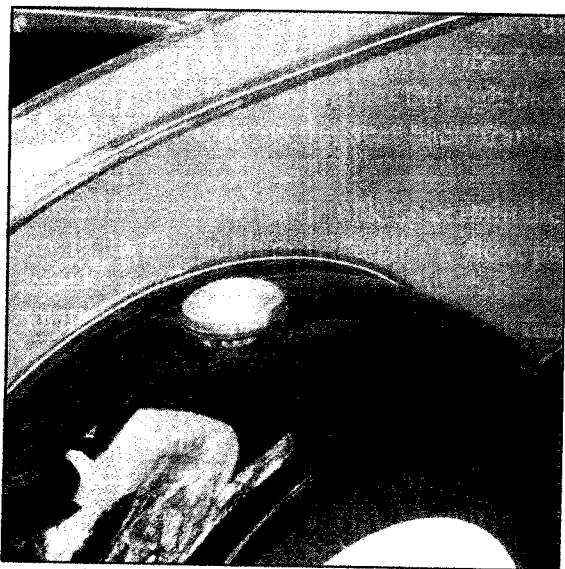

Figure 4-218 Fender Step Pad
26. Drill a hole in the top of the right rear fender, directly over the center of the wheel and in the center of the crown. Install the fender step with a rubber pad between the step and the fender, using a nut and lock washer (Figure 4-218).